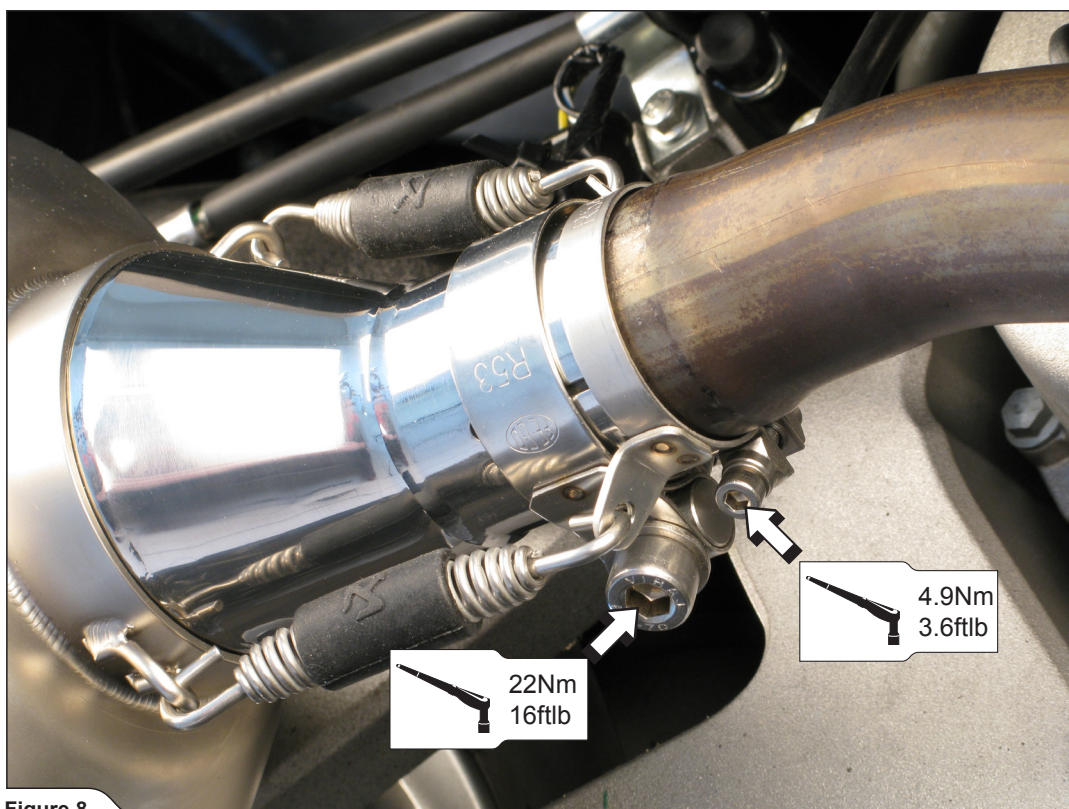

Figure 8
7. Tighten both clamps to the specified torques (Figure 8).